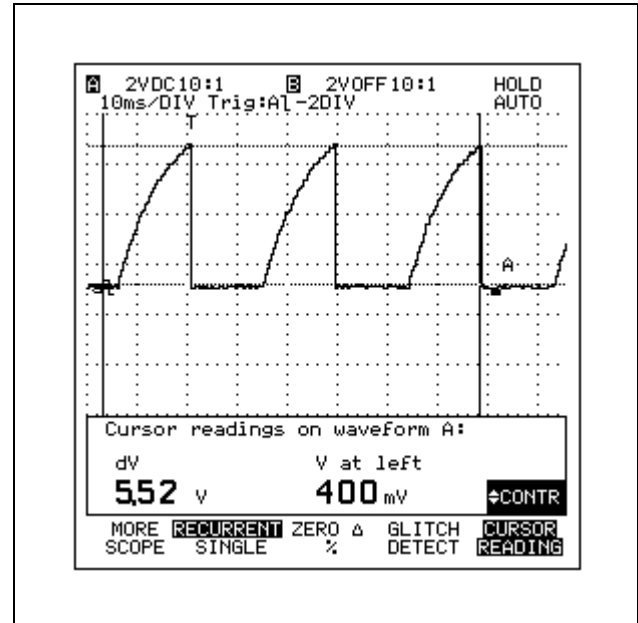

Figure 8-18 Volt Cursors Measurement
16. Use  and  to horizontally position cursors as shown in Figure 8-18.
As you move the cursors left and right, their intersection with the waveform is indicated by a horizontal dotted line. Make sure that the left cursor is at the bottom of the waveform and the right cursor at the top (see Figure 8-18).